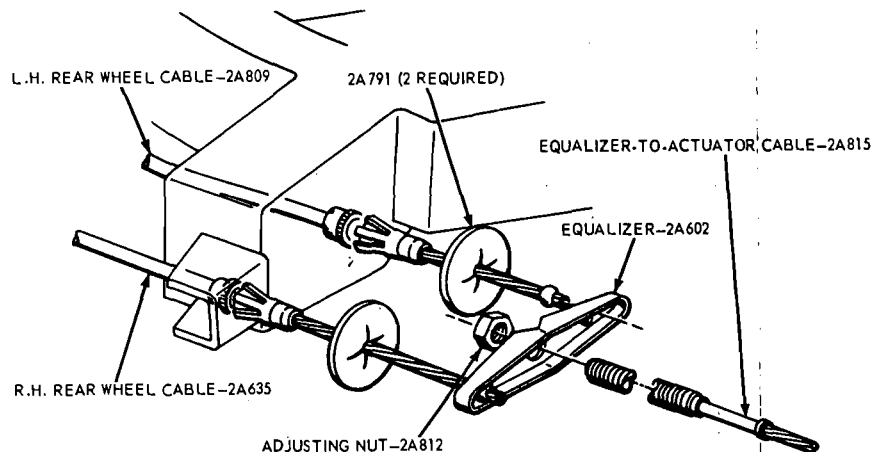

FIG. 3—Parking Brake Adjustment—Ford, Mercury, Meteor, Thunderbird and Continental Mark III
4. Loosen the lock nut and turn the adjusting nut forward against the equalizer (Figs. 3 and 6) until there is 100 ft-lbs breakaway torque. The breakaway torque is the torque required to turn the rear wheels the direction of forward rotation with a torque wrench and tool shown in Fig. 5. **The torque measurement must be made relative to the centerline of the wheel.** Tighten the lock nut.